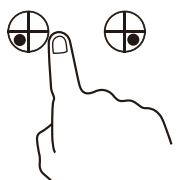
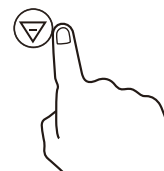

fig.2
fig.3
- Press the cooking zone select button (fig. 2) for the zone you want to use.
- Select the heat level required (1-9) by using the up and down buttons (fig. 3). By holding down either of these buttons, the value on the heat level display will adjust up or down.
- Select the cooking zone (fig. 2) and heat level (fig. 3).